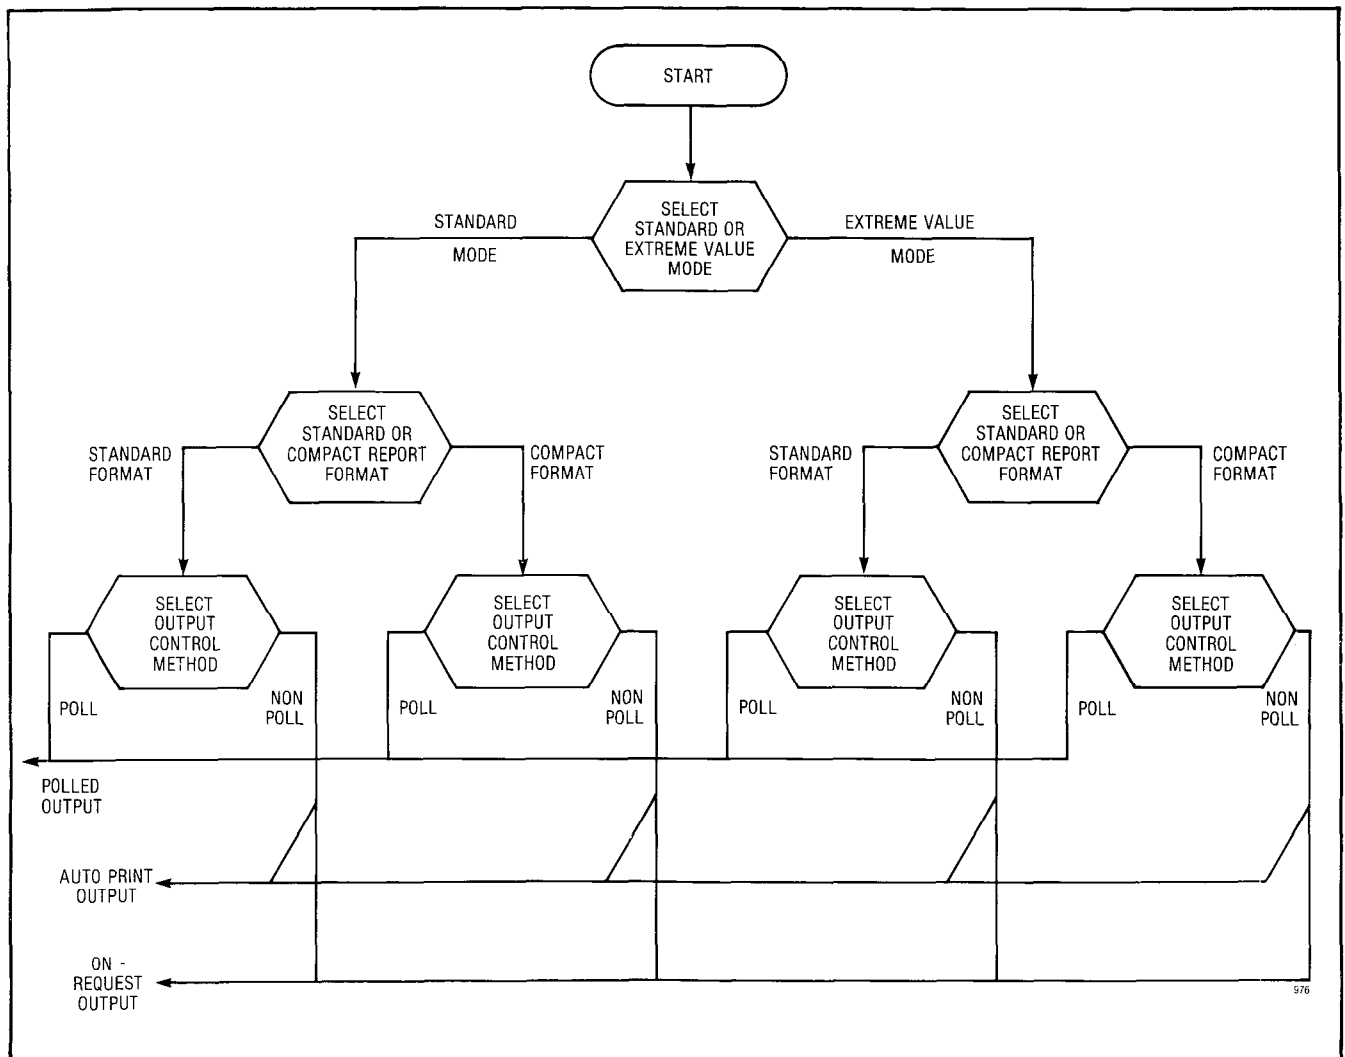
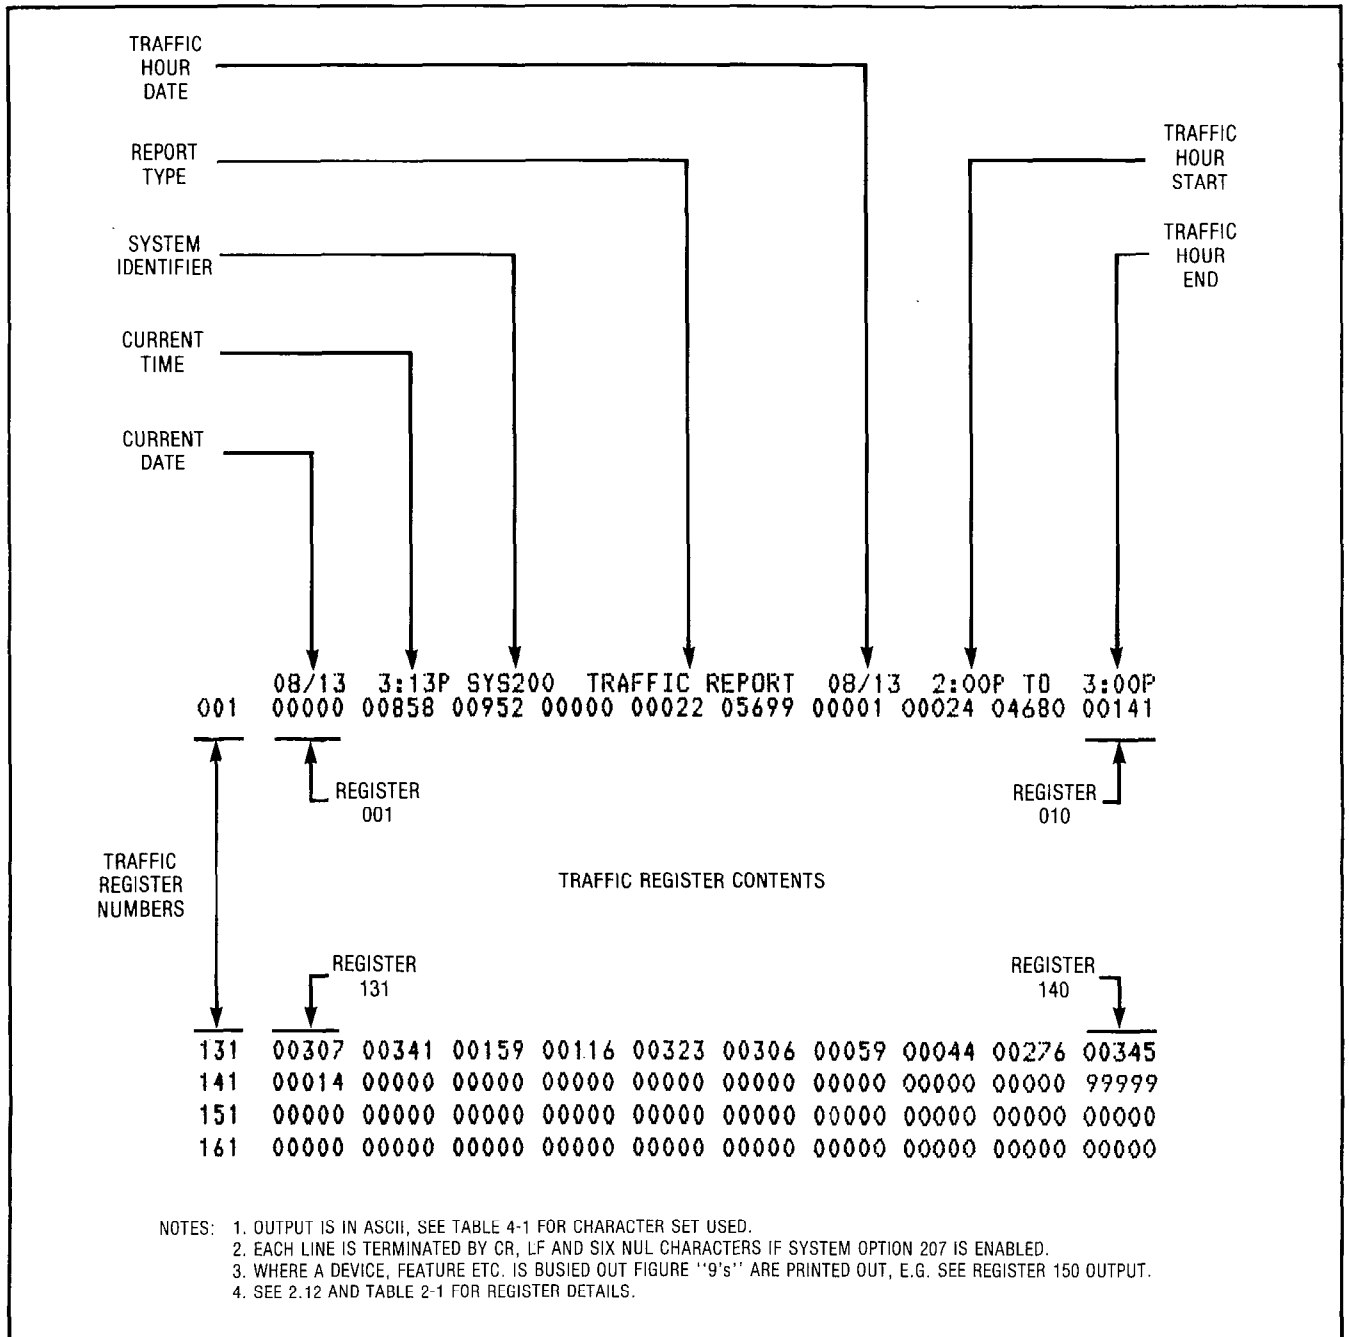

Fig. 3-1 Types of Data Output
Fig. 3-2 Compact Traffic Report
If a trunk is 'Busied-Out' when it is scanned, the Incoming Usage is reported as '****' in the Standard Report and as "99999" in the Compact Report. (see Fig. 3-1 and Fig. 3-2)
3.01 Traffic data is collected as described in Part 2 and it's output dependant on the particular system options selected and programmed on site. Fig. 3-1 illustrates the results of selecting these options, and these options are described in the following paragraphs.
3.09 Fig. 3-2 shows a sample of the header, first line and the last four lines of a Compact Traffic Report. Each subsequent line of text prints out the readings for 10 registers each in 5 digit format, commencing at Register 001 and, over 17 lines, accomodating a total of 170 register readings. The header information contains the following information:
2. See Table 3-1 for example of Standard Report, and Fig. 3-2 for Compact Report example.
Note: See Table 3-3 for Header Detail and Fig. 3-2 for example of report.